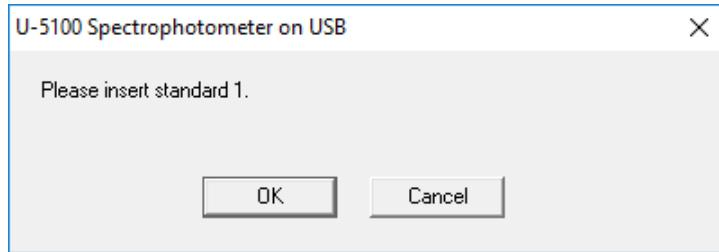

Fig. 4-46
- (3) Click **Yes**, and a window as shown in Fig. 4-46 will appear.
Then, a window as shown in Fig. 4-46 is displayed. Set the next standard sample and click **OK**. Standard samples are measurable until the set number of standard samples on the Standards tab in Analysis Method have all been measured.